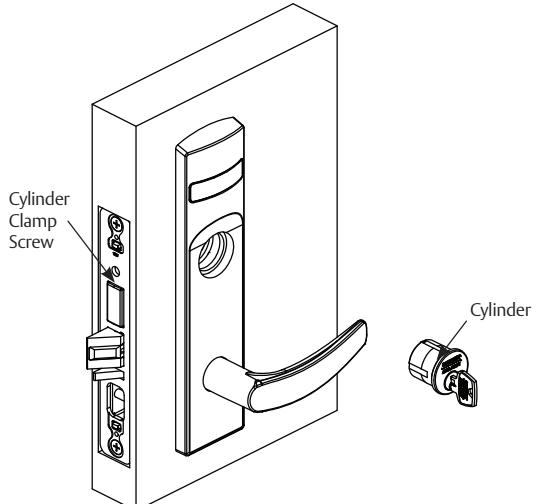

Figure 9
1. Thread cylinder into lock until flush with escutcheon surface. (Figure 9)